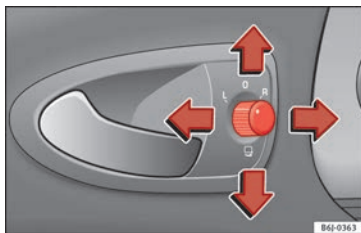

Fig. 139 Exterior mirror controls.
1. Turn knob »» Fig. 139 to position **L (left exterior mirror)**.
- Turn the control »» Fig. 139 to position to fold in the exterior mirrors. You should always fold in the exterior mirrors if you are driving through an automatic car wash. This will help prevent damage.